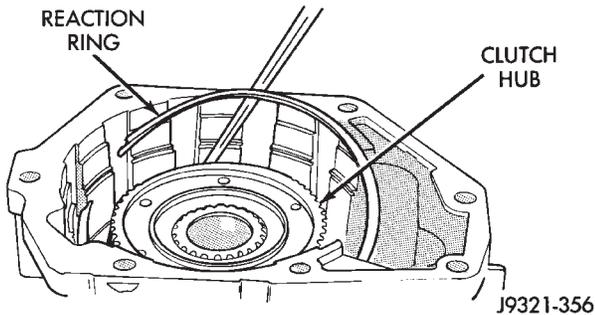

Fig. 259 Overdrive Clutch Reaction Ring Installation
- (1) Install overdrive clutch reaction ring first. Reaction ring is flat with notched ends (Fig. 259).